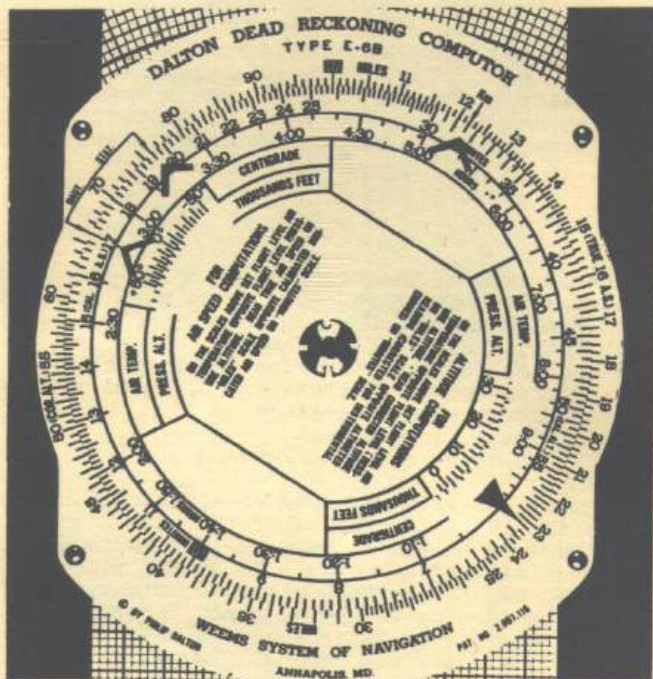

Figure 1
- (b) Against the "Stat" arrow read 196 statute miles and against the "Km" arrow read 315 kilometers. (see fig. 1)